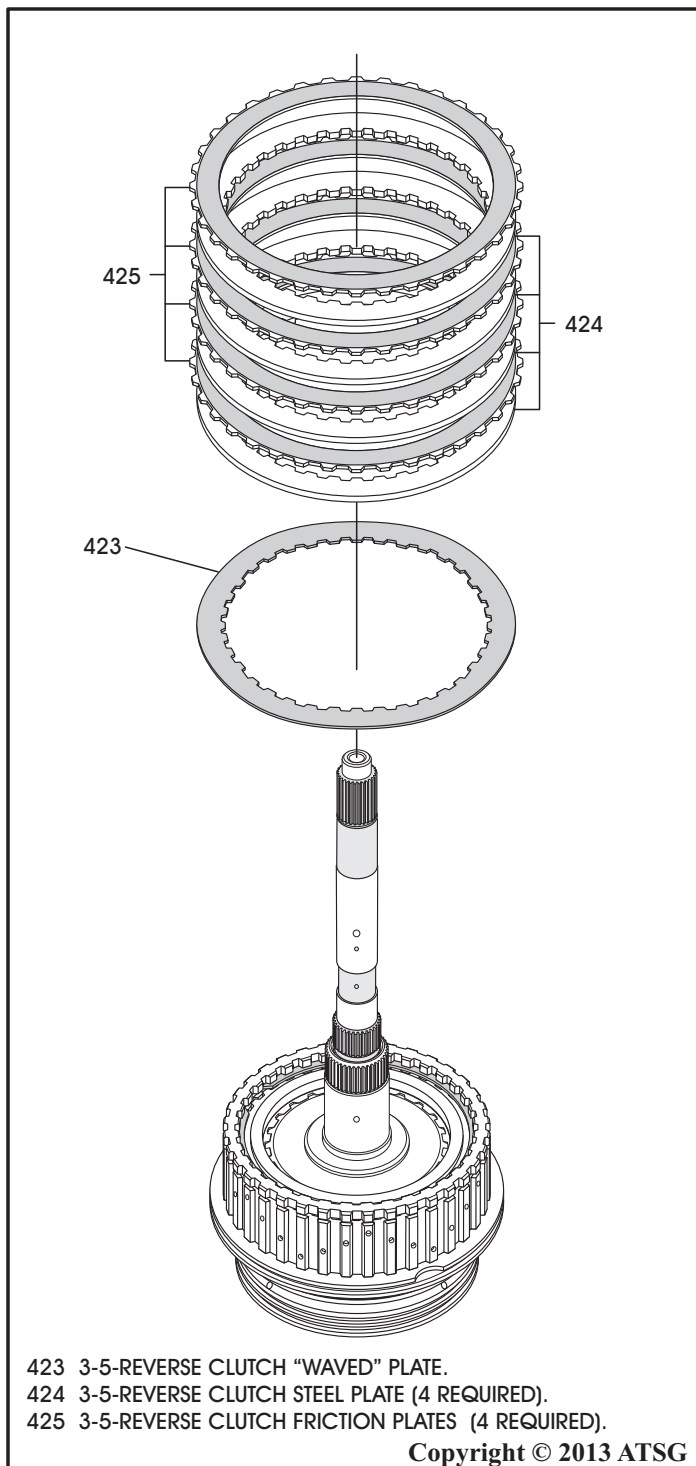

Figure 143
15. Remove the 3-5-Rev clutch friction and steel plates, as shown in Figure 143.
16. Remove the 3-5-Rev clutch wave plate, as shown in Figure 143.